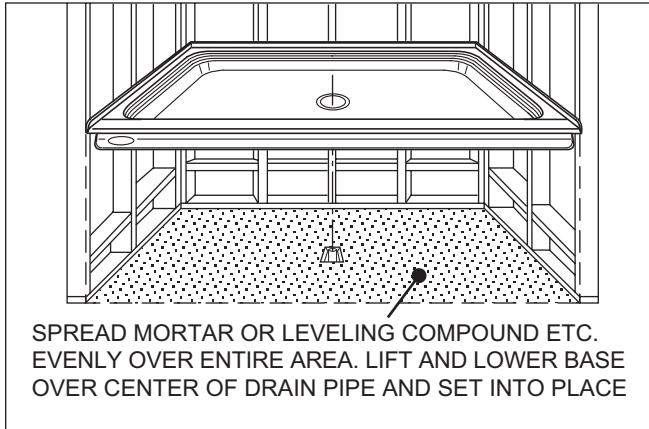

Figure 1
STEP 1. If the subfloor is level, no other preparation is necessary. You can proceed to install the base. If the subfloor is not level, level shower base by spreading floor leveling compound, mortar, plaster or minimal expansion structural foam with a density of a minimum of 5 lbs./cubic ft. **EVENLY** over **ENTIRE** area where base will be installed. (See Figure 1.) **NOTE:** The compound used **MUST** make contact with the entire bottom surface of the base feet. The base is **NOT** to be supported by the base flange.
If the subfloor is level, no other preparation is necessary. You can proceed to install the base. If the subfloor is not level, level shower base by spreading floor leveling compound, mortar, plaster or minimal expansion structural foam having a density of a minimum of 5 lbs./cubic ft. **EVENLY** over **ENTIRE** area where base will be installed. (See Figure 1.) The compound used **MUST** make contact with the entire bottom surface of the base feet. The base is **NOT** to be supported by the base flange. Both sides of a joint or splice of sub-floor should be level to each other. Level and support waste pipe cutout area greater than 5" x 5".